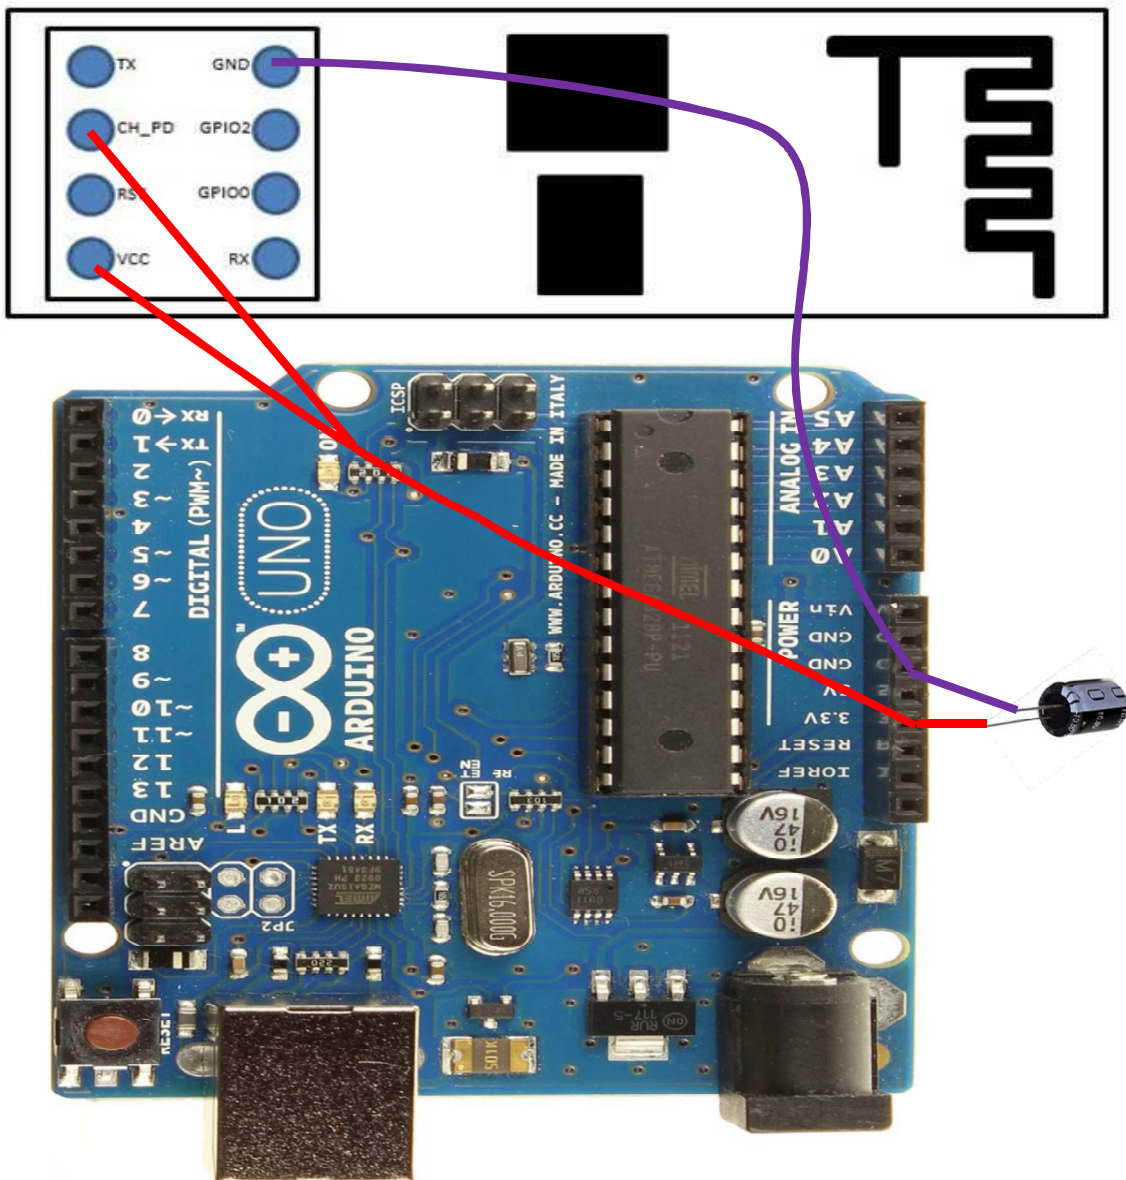
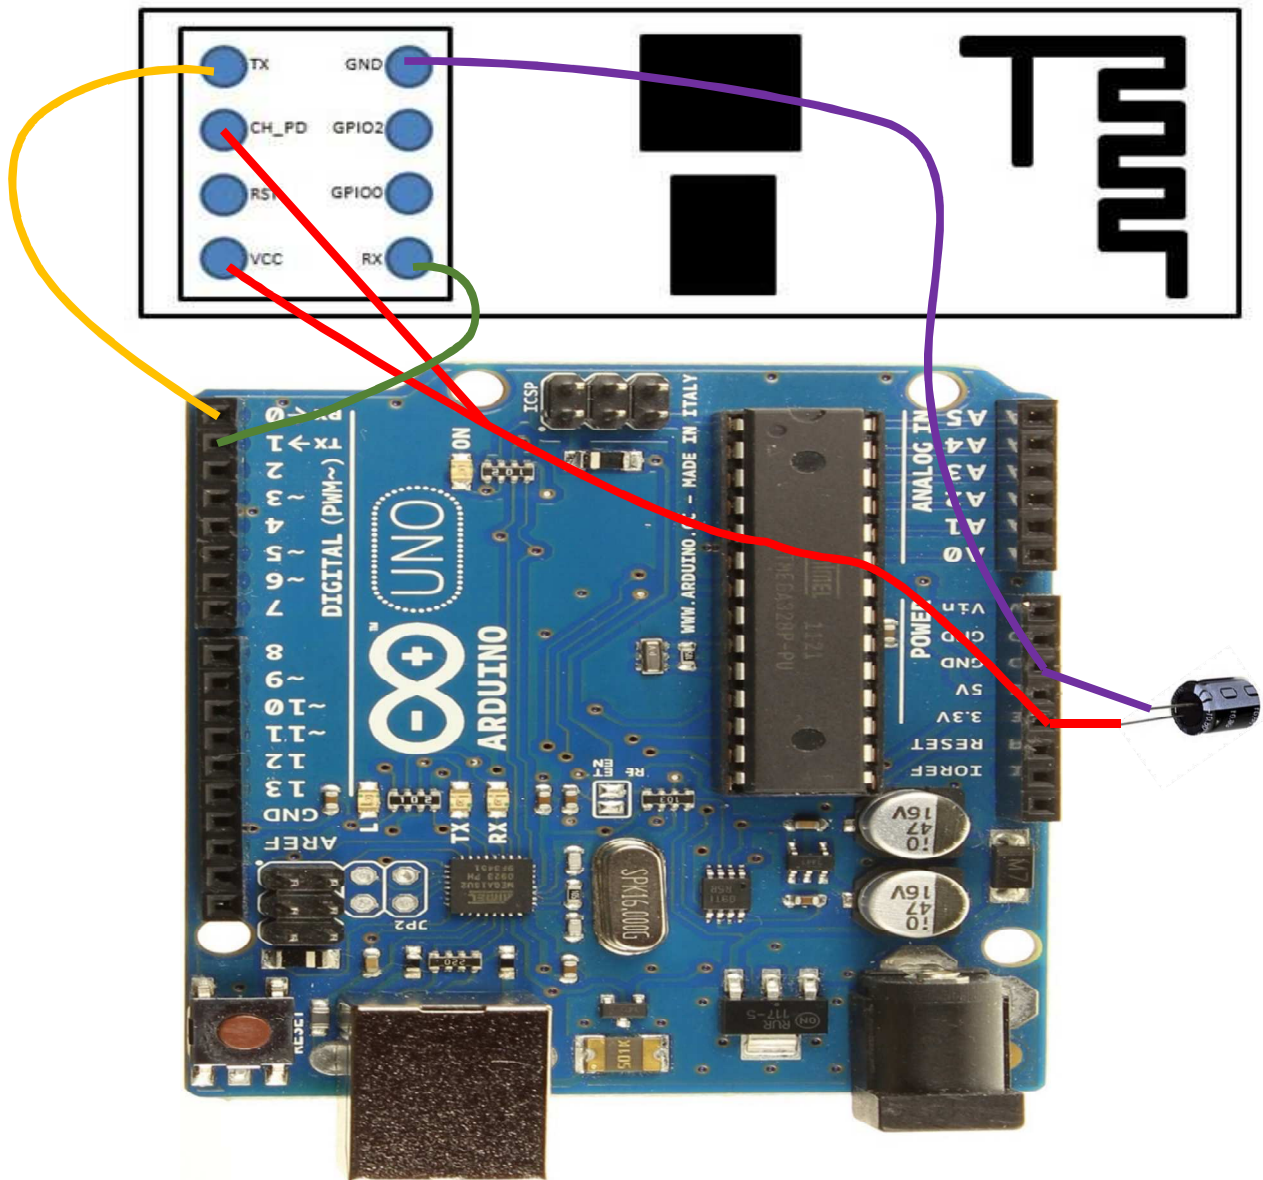

Figure 4: ESP8266-01 Power from Arduino Board.
Figure 10: ESP8266-01 Connections for “Standard” (Flash Mode) Operation.
There are lots of suggestions, warnings, and specification sources for the ESP8266 modules power supply. In this report, the documented power connection is the one we have used for years without any major incident due to the power consumption and/or failures and/or damages due to power supply. Fig. 4 schematically shows the pins used for the ESP8266-01/07 power supply using an Arduino UNO board, which
Warning/Disclaimer: Use the power supply shown in Fig. 4 under your own risk, and take into account that this scheme has worked for several years in very simple development environments and very simple application prototypes. It has not been used in production environments of any application. A capacitor as the one shown in Fig. 4 is repeatedly suggested in many sites due to several ESP8266 power consumption spikes as well as the rather limited 3.3v power source provided by the Arduino boards. The capacitor nominal capacitance specification (e.g. either 1 μ F or 10 μ F) depends on the (mostly Internet, non-official) source, though. The work documented in this technical report has been made with 1 μ F and 10 μ F nominal capacitance capacitors.
There are several suggestions of using a power source independent of Arduino boards, too. However, the power source in Fig. 4,
Take into account that the power supply connection is the one shown in Fig. 4 above, and there are a few more physical connections, basically for:
Fig. 10 shows the connections of the ESP8266-01 in order to be used as an Arduino board WiFi network. Take into account that the power supply connection is the one shown in Fig. 4 above, and
to a low cost Arduino board. In cases the Arduino board needs to send and/or receive some data via WiFi it will need and use the serial communication with the ESP8266 module via Rx-Tx pins connected as shown in Fig. 10.
- 2) Connect the ESP8266 module as shown in Fig. 10.